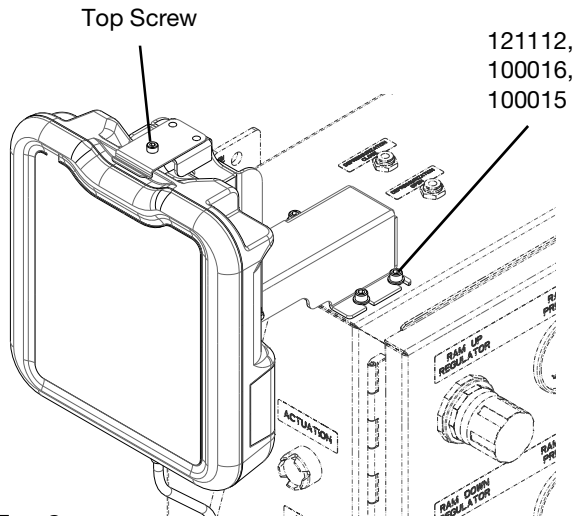

FIG. 8
1. Turn OFF the System Disconnect Switch (AL).
2. Remove the cap plugs on the Control Box (F) the ADM will be mounted on.
3. Using the screws (121112), washers (100016), and nuts (100015), mount the bracket to the Control Box (F).
4. Place the ADM into the bracket and securely screw in the top screw, as shown in FIG. 8.